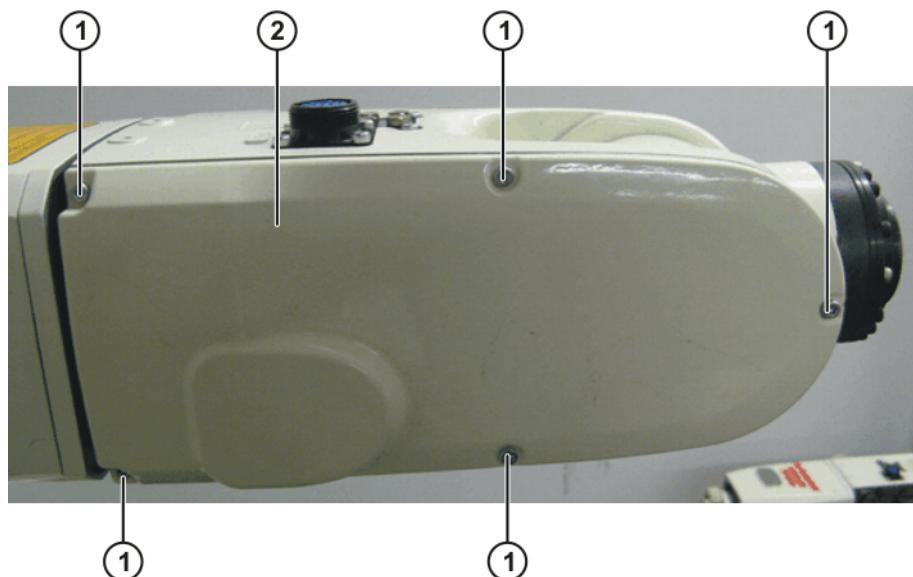

Fig. 11-3: Cover A5
1. Remove 5 screws (>>> Fig. 11-3) from the arm.
11. Mount the cover (>>> Fig. 11-3).